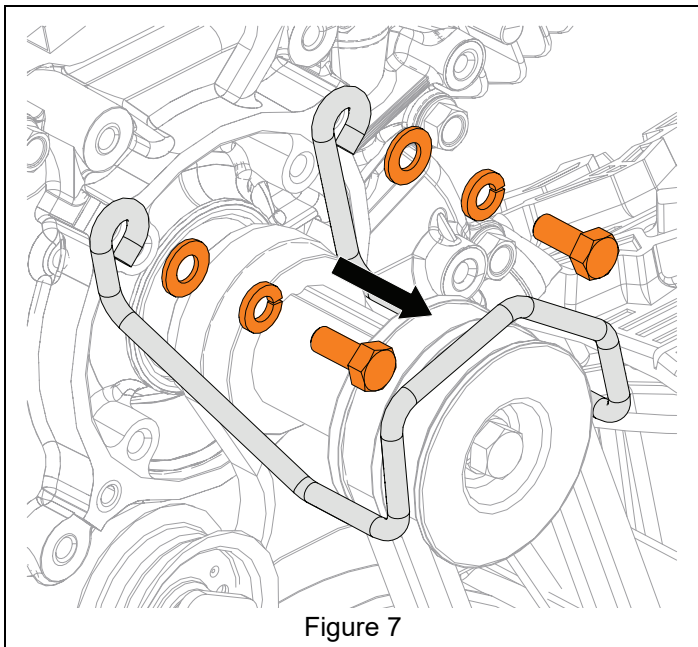

Figure 7
11. Remove hardware retaining belt finger to engine and remove belt finger. See Figure 7.
3. Remove belt cover and belt finger as shown in Figure 6 and Figure 7.